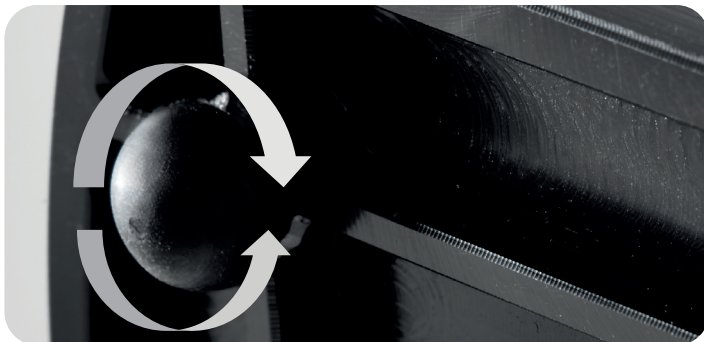

Figure 1
4. Lay drip tray on work counter. (Note: if there is any rocking of tray, the bottom feet can be adjusted by rotating as necessary as shown in figure 1)